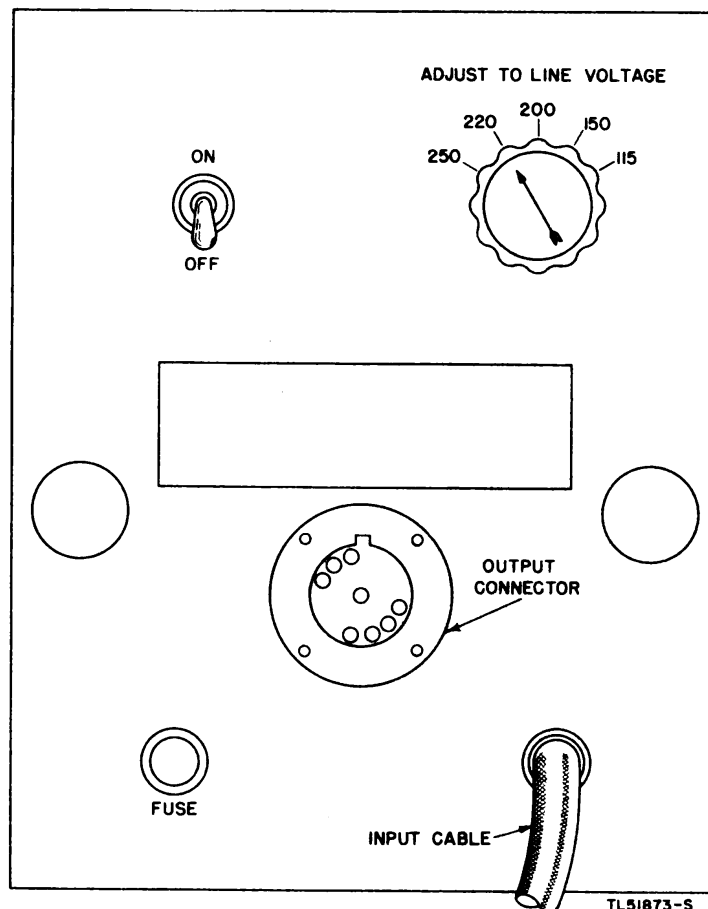

Figure 18. Rectifier power unit, identification of controls.
19. RECTIFIER POWER UNIT PP-74/TRC-10 (fig. 18).